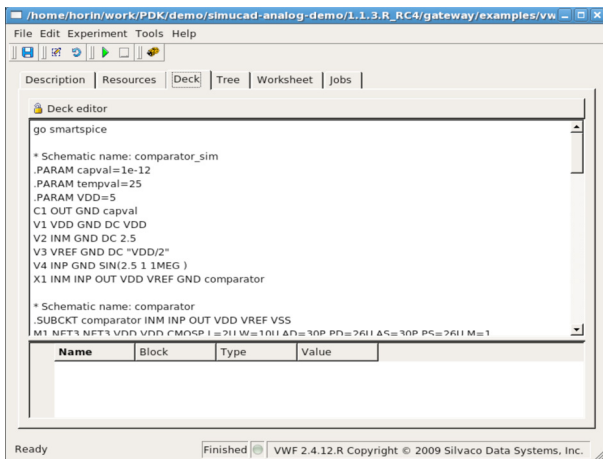

Figure 5. edited header section.
1. Remove a section with comment delimiters of header and insert "go smartspice". See Figure 5